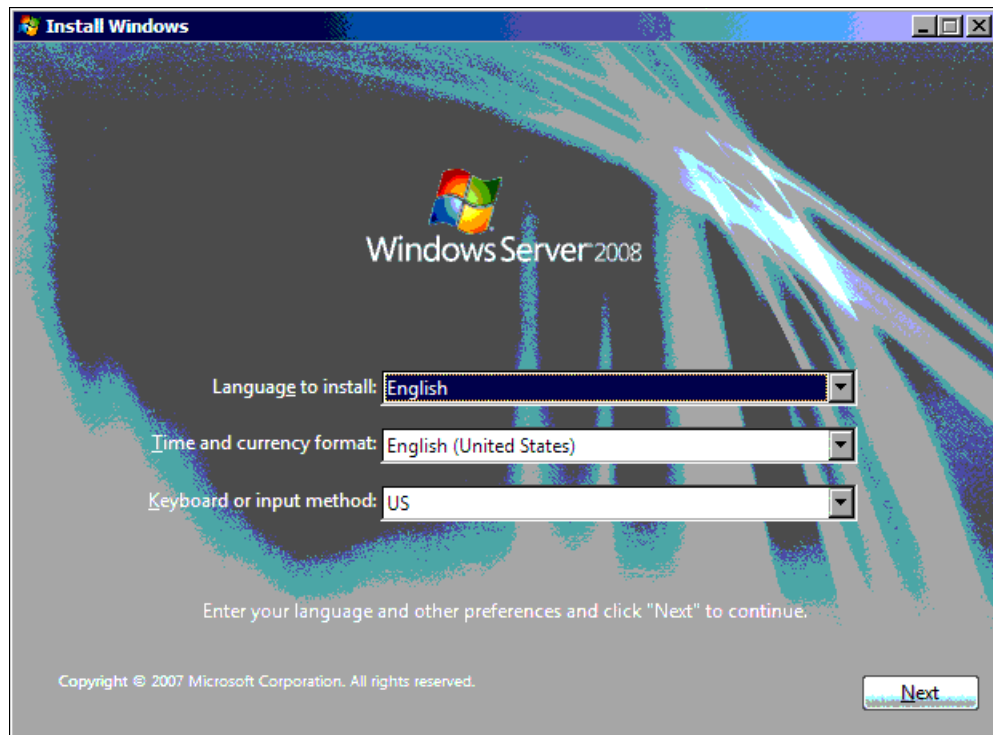

Figure 4-1 Setting language, time and currency and keyboard layout
2. Set your locale and click **Next**, as shown in Figure 4-1.